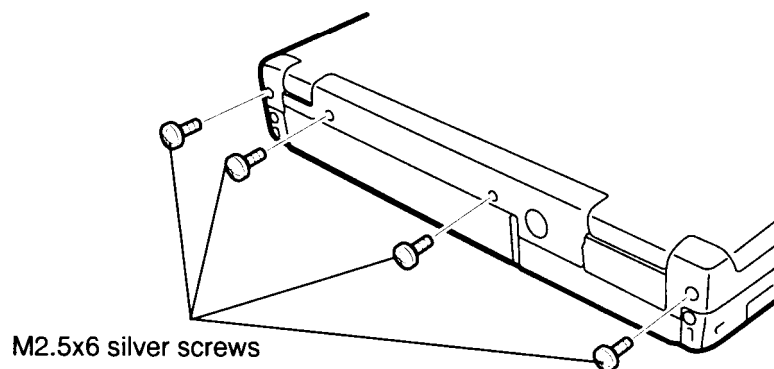

Figure 4-12 Removing screws (back of the computer) securing the top cover
4. Turn the computer right side up so the back of the computer faces you. Remove the **four M2.5x6 silver screws** securing the top cover at the back of the T4850CT (Figure 4-12).
4. Secure the **four M2.5x6 silver screws** at the back of the T4850CT (Figure 4-12).